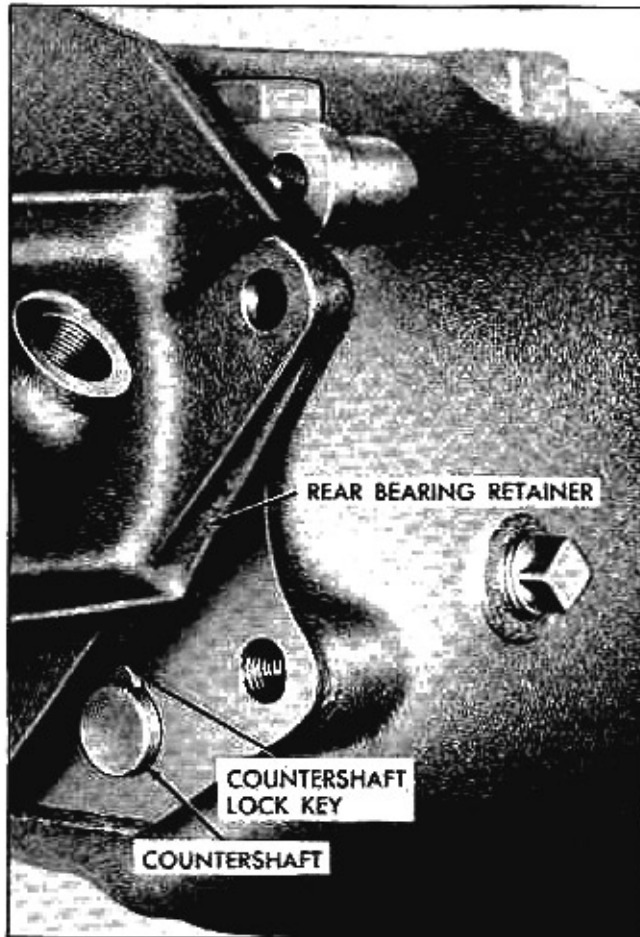

Fig. 7A-21 Rear Bearing Retainer Rotated
11. Coat bore at rear end of main drive gear with heavy lubricant and insert the 14 roller bearings in bore (Fig. 7A-14).
15. Carefully install mainshaft and extension assembly through opening in rear of case (Fig. 7A-13), making certain front end of mainshaft enters roller bearings at rear of main drive gear and mark on clutch sleeve lines up with slot in synchronizing ring.
17. With rear bearing retainer extension rotated as shown in Fig. 7A-21, insert countershaft through exposed shaft opening in rear of case, making certain the shaft passes through both thrust washers before it enters countergear.